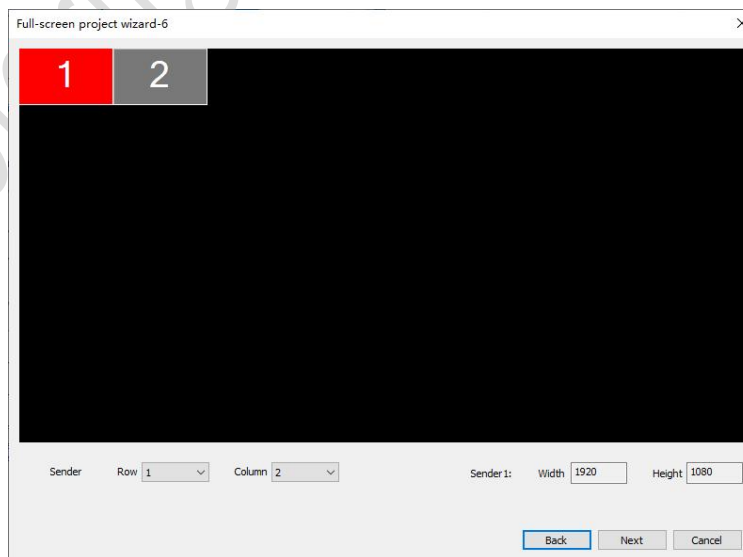

Fig.4-18 Sender layout settings
- When *Calibration Pro* has detected more than 1 sender, you will need to set the sender layout before continuing the wizard-6. See Figure 4-18.